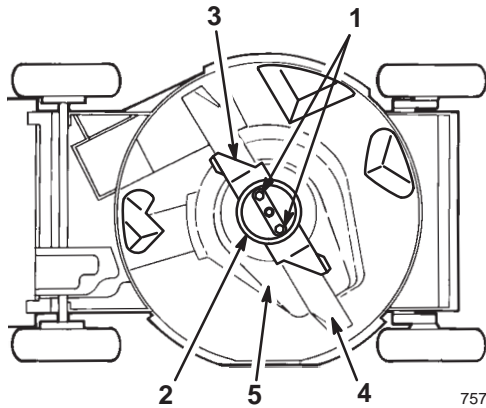

Figure 23
5. Remove two blade nuts, the anti-scalp cup, the accelerator, the blade, the blade spacer, and three bolts and washers that secure the BBC shield to the lawn mower deck (Fig. 23).
2. Remove the two blade nuts, the anti-scalp cup, the accelerator, and the blade (Fig. 23).
1. Install the blade, the accelerator, the anti-scalp cup, and the two blade nuts (Fig. 23).